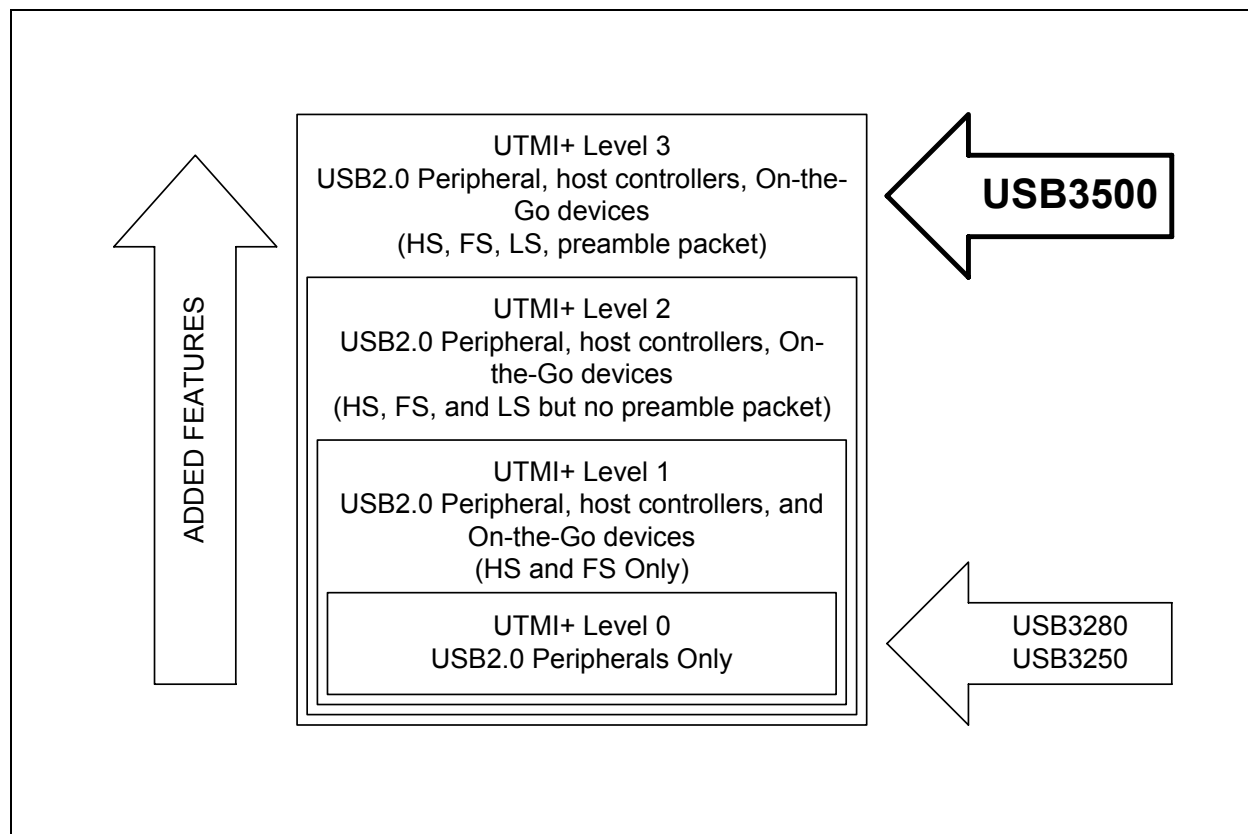

Figure 1.2 UTMI+ Level 3 Support
The USB3500 provides a fully compliant USB2.0 interface, and supports High-Speed (HS), Full-Speed (FS), and Low-Speed (LS) USB. The USB3500 supports all levels of the UTMI+ specification as shown in Figure 1.2.